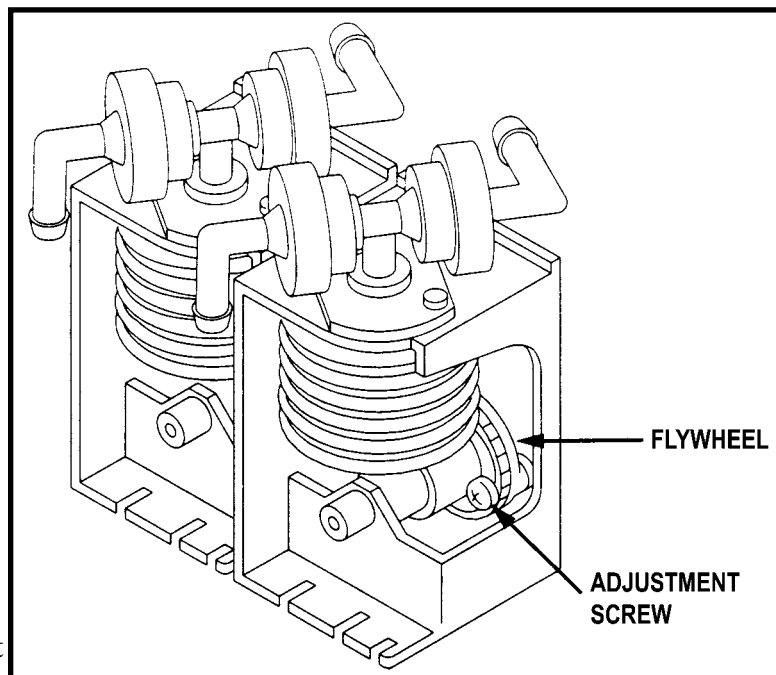

Figure 4
3. To change the developer replenishment rate: (See Figure 4)